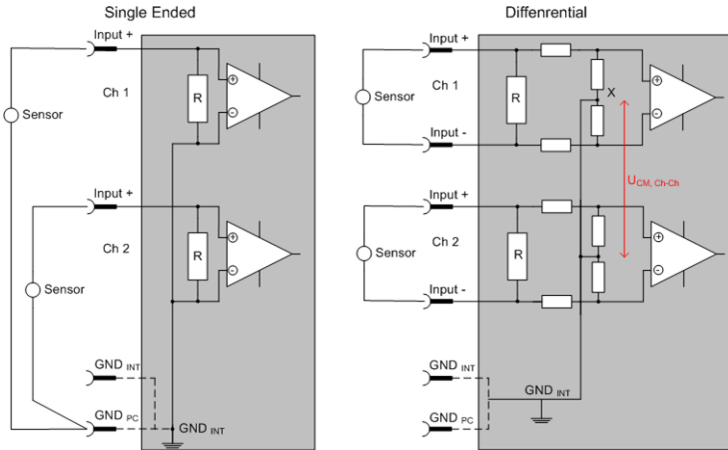

Figure 3-68: SE and DIFF module as 2-channel version
- Since a differential channel is configured symmetrically internally (see Figure 3-68: SE and DIFF module as 2-channel version), there will be a mid-potential (X) between the two supplied potentials that is the same as the internal ground/reference ground for this channel. If several DIFF channels are used in a module without electrical isolation, the technical property V_{CM} (common-mode voltage) indicates the degree to which the mean voltage of the channels may differ.
- **Single Ended (SE)**